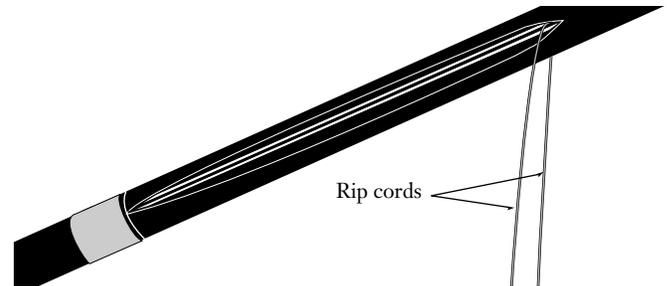

Figure 18
6.6 Locate the rip cords. Cut the rip cords near the tape mark with scissors (Figure 18).